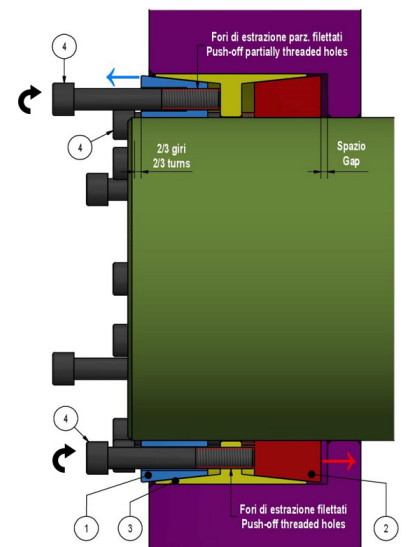

Fig. 2 Disengagement of thrust rings and positioning of Locking Assembly
2. For ease of installation, thrust rings shall be disengaged (fig. 2). Loosen all screws by two/three turns; then transfer and hand tighten at least two screws into the push-off threaded holes in the front thrust ring and at least two screws into the push-off threaded holes in the outer ring, accessible via corresponding clearance holes in the front thrust ring.
3. Insert Locking Assembly into the hub bore and make it slide onto the shaft, making sure that connected components are positioned as required. **Thrust rings and outer ring shall be completely supported by shaft respectively hub bore (fig. 2).** At this point, relocate the screws used to disengage the thrust rings. Installation into hubs with shoulder requires a few mm's gap between rear thrust ring and shoulder (fig. 2).